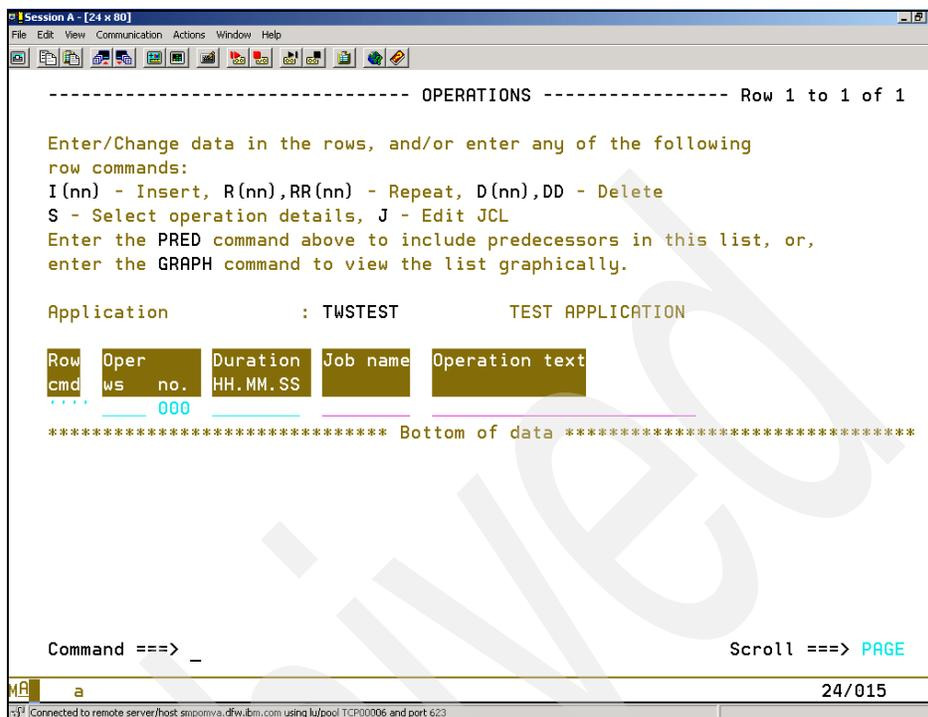

Figure 1-15 OPER command
- Press PF3 to back out until you reach the Modifying the Application panel, and type OPER on the command line (or just OP depending on how Tivoli Workload Scheduler for z/OS is installed) to insert operations/jobs using the OPERATIONS panel (Figure 1-15 on page 49).